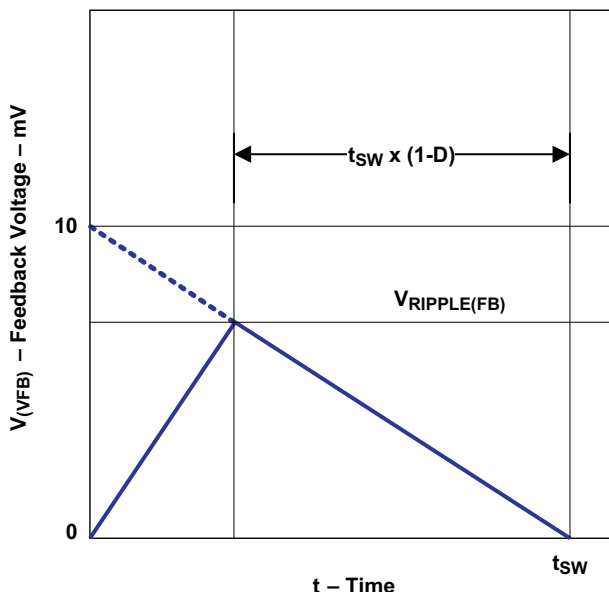

Figure 23. Ripple Voltage Down Slope
- the output ripple down slope rate is 10 mV/t_{sw} in terms of VFB terminal voltage as shown in Figure 23